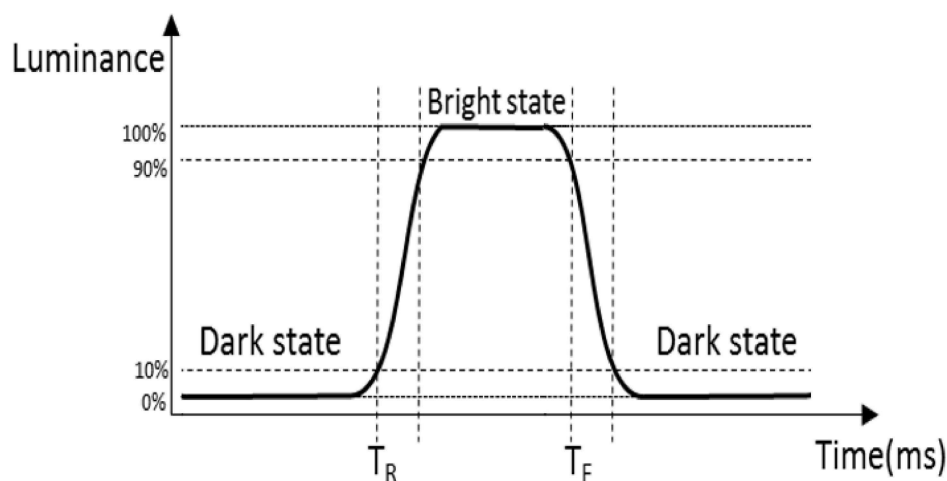

Figure 9. The definition of TR and TF
Measured response time is determined by rise time (TR) and fall time (TF) , and shown in Figure 9
(4) Definition of Viewing angle: